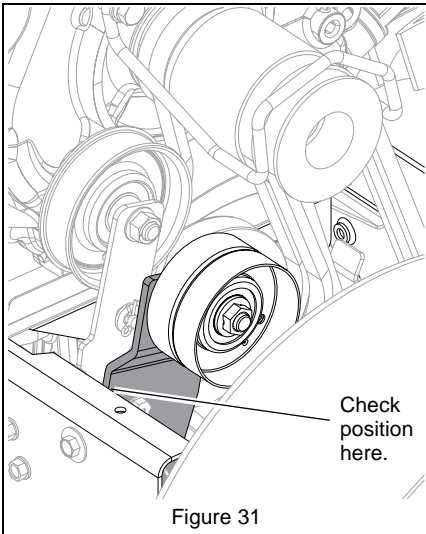

Figure 31
5. With the attachment clutch disengaged, make sure auger idler arm lightly touches the frame. See Figure 31.